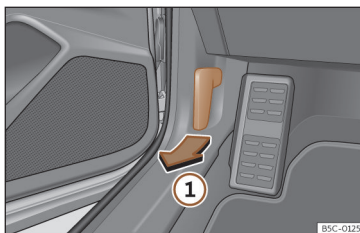

Fig. 222 Release lever in the driver's footwell area.
- Open the door and pull the lever that is underneath the instrument panel >>> **Fig. 222 ①**.